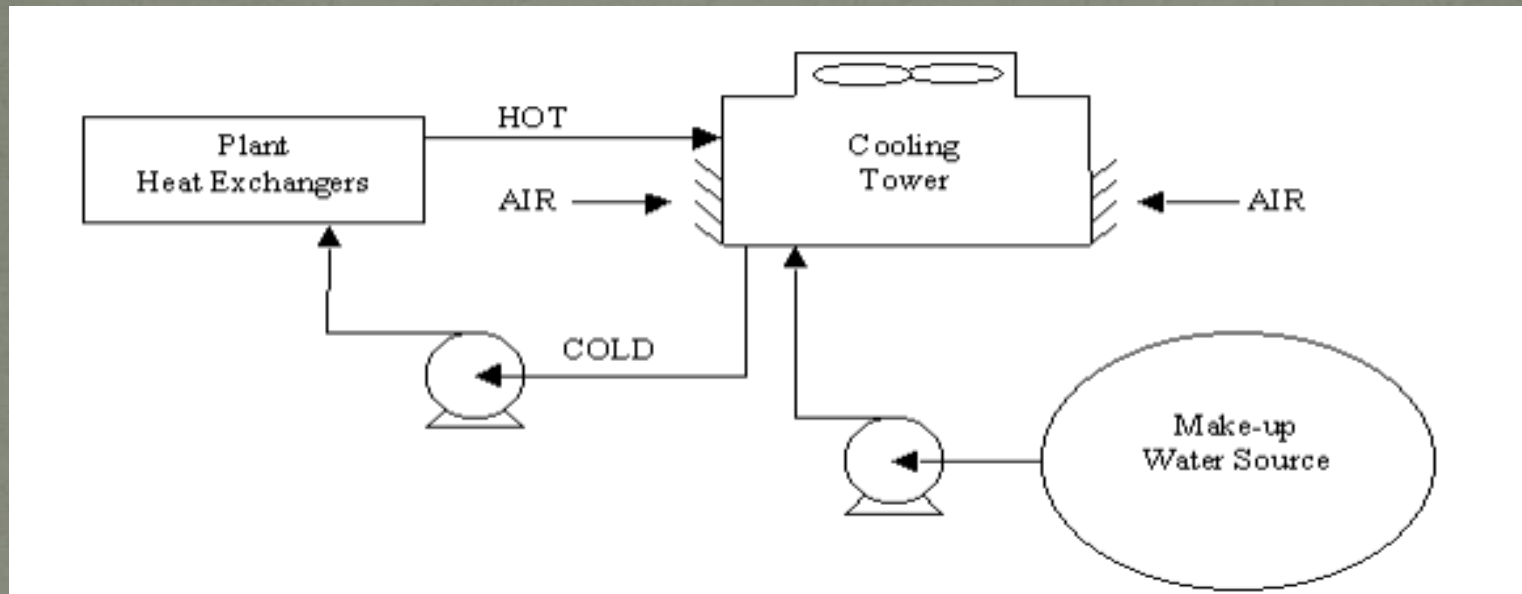

Fig 1 . Schematic illustrating the role of cooling tower in a process plant
- ❖ They are either Atmospheric spray type [Fig.1] or Hyperbolic natural draft towers.